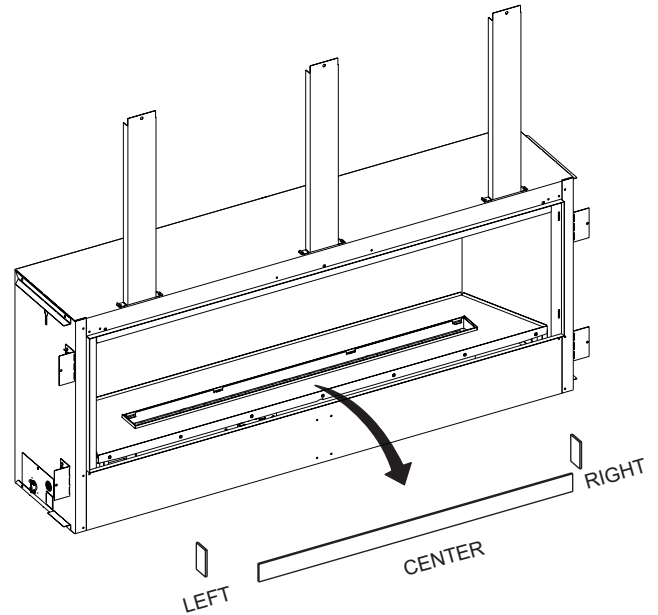

Figure 3
- Remove glass panels around burner. **See Figure 3.**
11. Reinstall glass panels removed in Step 3. **See Figure 3.**